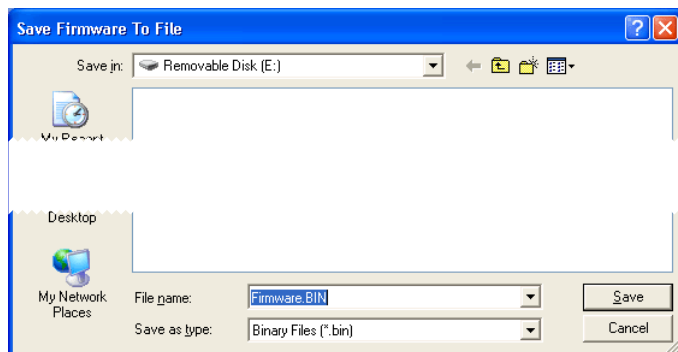

FIGURE 144 Saving the Firmware.BIN component of the .dxf file to the card
- In the Save Firmware To File dialog box that opens (Figure 144), check that the card is still present in the **Save in** list box, then click **Save**.